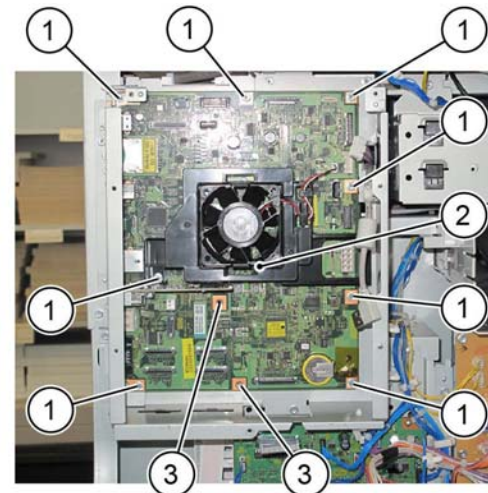

Figure 12 ESS PWB removal
13. Remove the ESS PWB, Figure 12:
- Remove eight screws (1).
- Remove the ESS fan (2).
- For machines without an HDD, remove both screws (3).